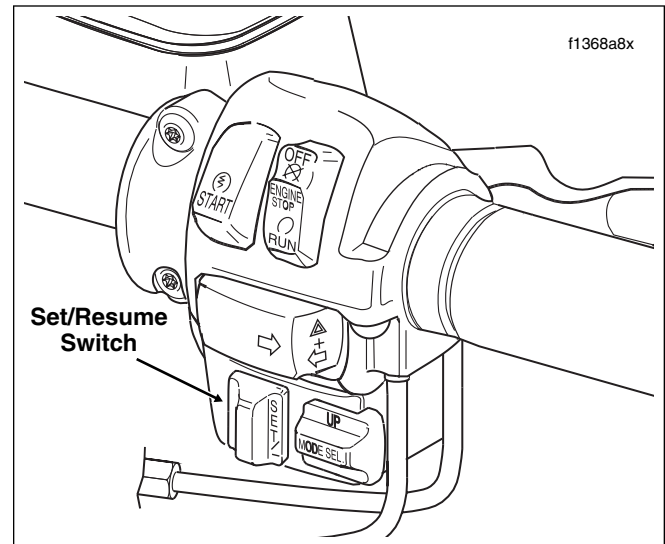

Figure 8-129. Right Handlebar Switch Assembly (FLTR, FLHTCU)
3. With the motorcycle traveling at the desired "cruise" speed (30 mph/48 km/h to 85 mph/137 km/h), momentarily push the Cruise SET/RESUME switch to SET. See Figure 8-129.